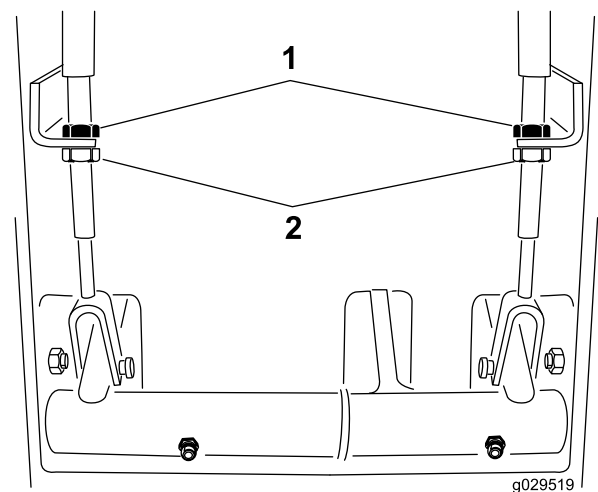

Figure 69
2. To reduce the free travel of the brake pedals, loosening the front jam nuts at the threaded end of the brake cable (Figure 69).